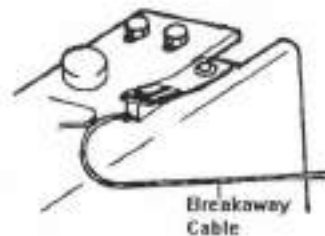

Figure P12: Breakaway Cable
8. Make sure breakaway cable is in released position with indicator bead touching or resting against cable spring stop. See Figure P12.